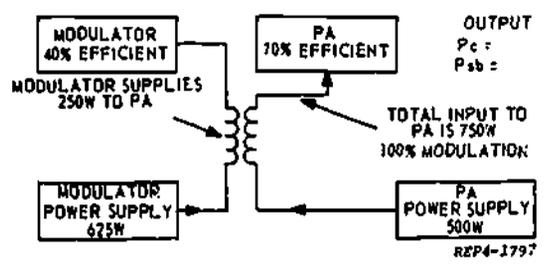

Figure 4
7. Figure 4 illustrates the modulating section of a transmitter. Determine the carrier power  $P_c$  \_\_\_\_\_ and the sideband power  $P_{sb}$  \_\_\_\_\_.